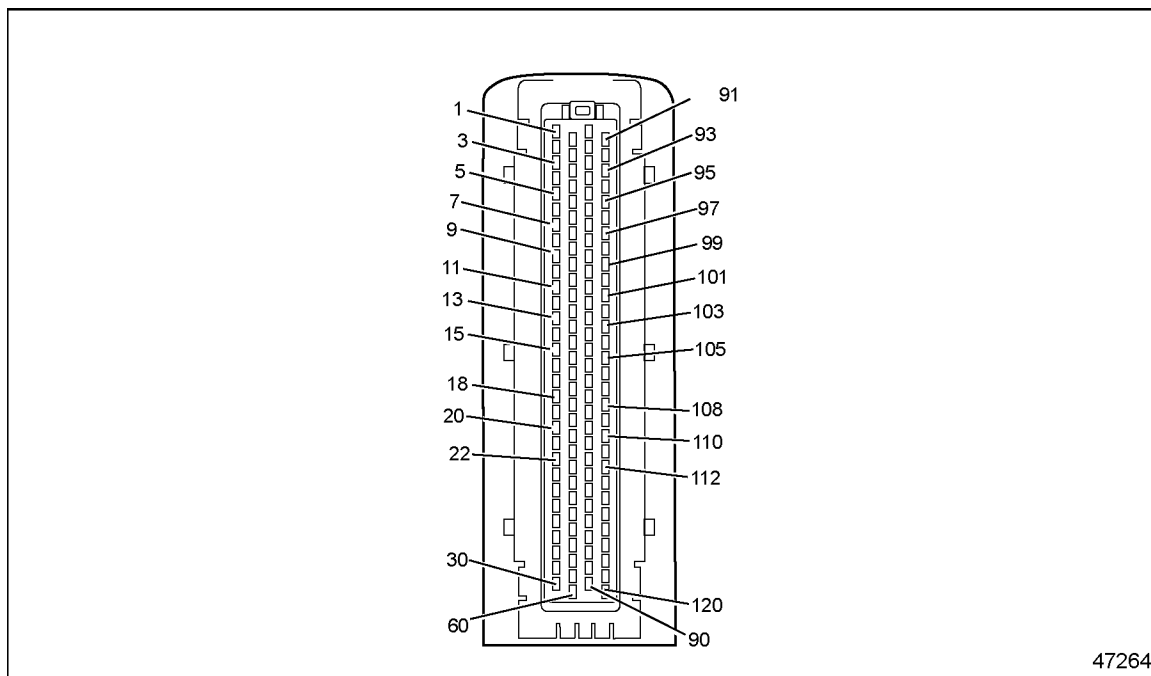

Figure 59-1 120-pin MCM Connector
7. Measure the resistance between pin 11 of the MCM 120-pin connector and pin 10 of the Front Injector Harness 12-pin connector. See Figure 59-1.
- [b] If the resistance is less than 3 Ω , repair the short to power between battery positive and pin 11 of the MCM 120-pin connector. See Figure 59-1. Refer to section 59.1.1.1.